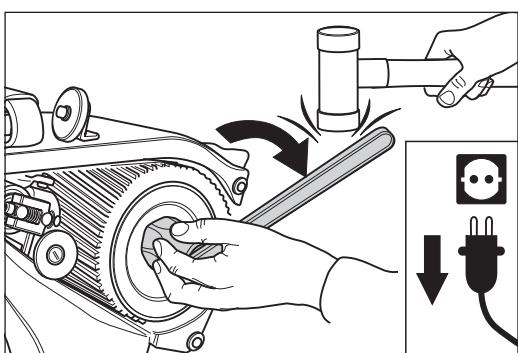

Fig. 48 Release the box nut (**left-hand thread**), if necessary by knocking gently with a soft hammer! **Never use a steel hammer!**
- 5 Open the drum nut using the box wrench (see tool bag). Note that the drum nut has a **left-hand thread** (Fig. 48)! If necessary, take a soft hammer to help you loosen the nut. **Never use a steel hammer!**